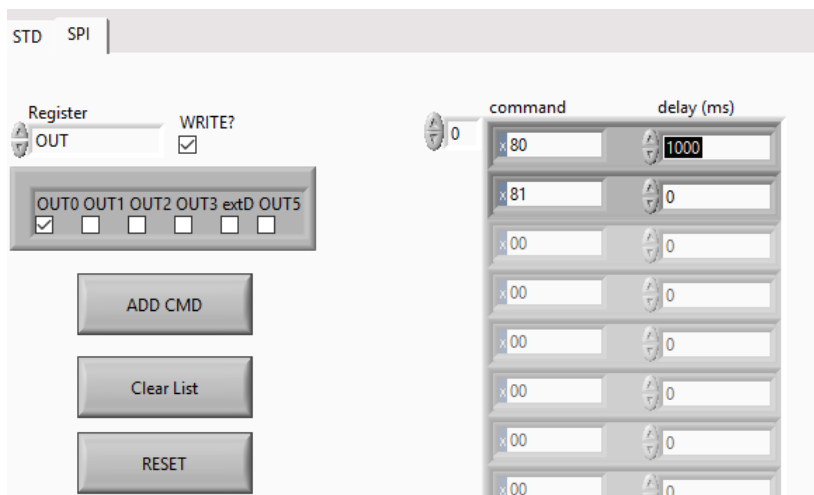

Figure 25 - change delay of commands
- Change the delay of each command to 1000 (delay of 1 second, See Figure 25)